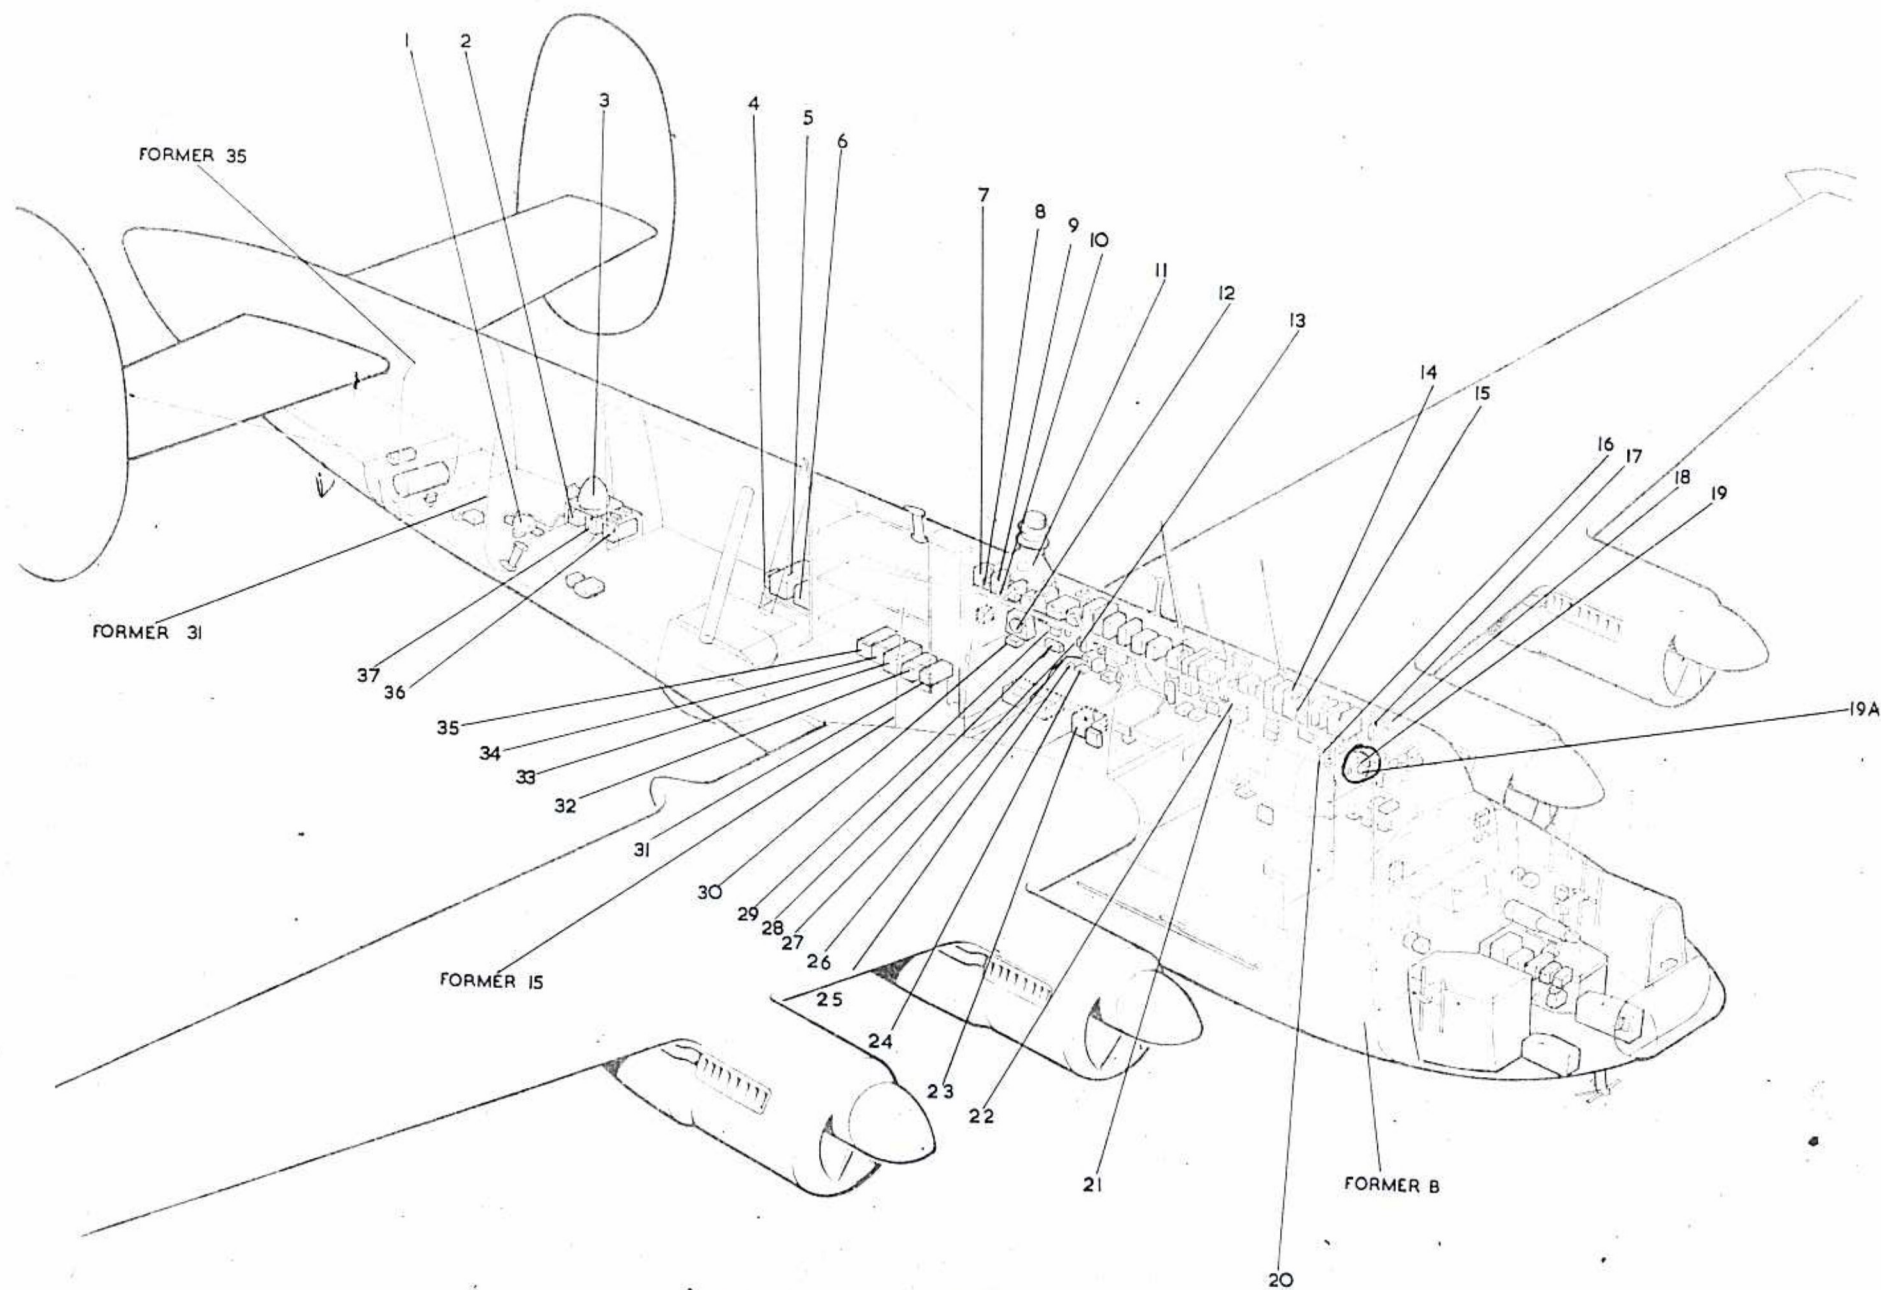

Fig.1. Location of radar equipment.
3. Location of the equipment is shown in fig.1. Routeing charts and descriptions of the various installations are contained in the respective chapters of this section.
KEY TO FIG.1